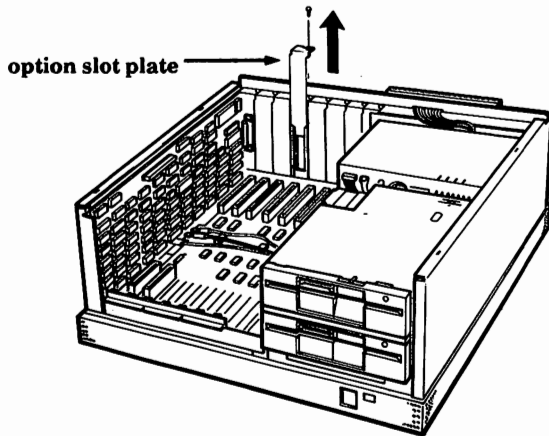

Figure 2-3. Location for the board.
7. Remove the screw and the option slot plate and set them aside. See Fig. 2-3.